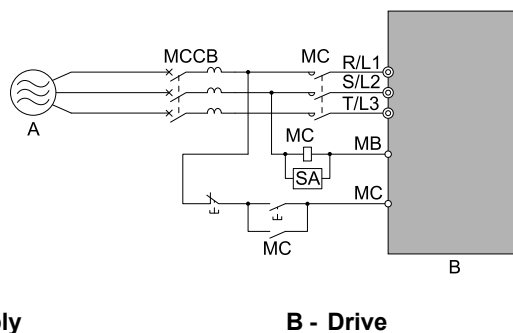

Figure 3.54 Connect an MCCB
- When you connect more than one drive or the drive and other device to an MCCB or ELCB, refer to Figure 3.54, use a magnetic contactor (MC), and set a sequence that de-energizes the drive when it outputs errors.